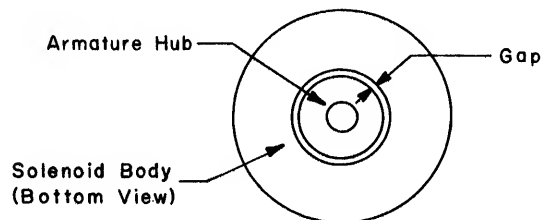

Figure 5-2. Solenoid Radial Gap Adjustment
h. Observing bottom of solenoid, apply a radial force to armature hub in all directions; adjust gap between solenoid hub and body for maximum clearance on all sides without binding (see Figure 5-2), by tapping solenoid body to shift its position on